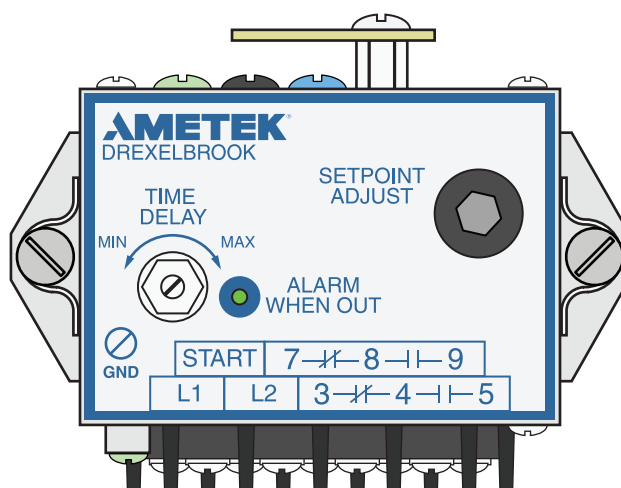

Figure 4-1
The time delay adjustment is located on top of the electronic unit chassis. See Figure 4-1. The standard time delay is adjustable from 0-120 seconds.
The purpose of the time delay is to allow the pump to prime itself or ignore voids in the process stream for a preset time period. Turning the adjustment clockwise (CW) will increase the time delay, and turning it counterclockwise (CCW) will decrease the time delay. See Figure 4-1.